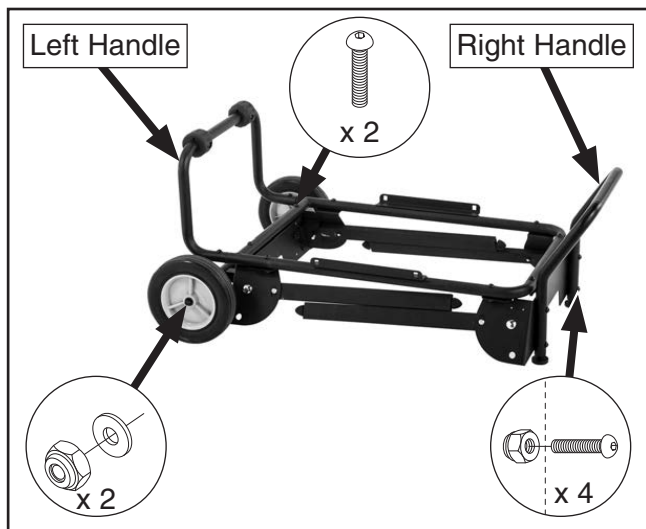

Figure 18. Roller stand assembly.
1. Attach (2) wheels to axle with (2) 8mm flat washers and (2) M8-1.25 lock nuts (see **Figure 18**).
2. Attach left handle to stand body with (2) M8-1.25 x 16 button head cap screws (see **Figure 18**).
3. Attach right handle to stand body with (4) M8-1.25 x 40 button head cap screws and (4) M8-1.25 lock nuts (see **Figure 18**).